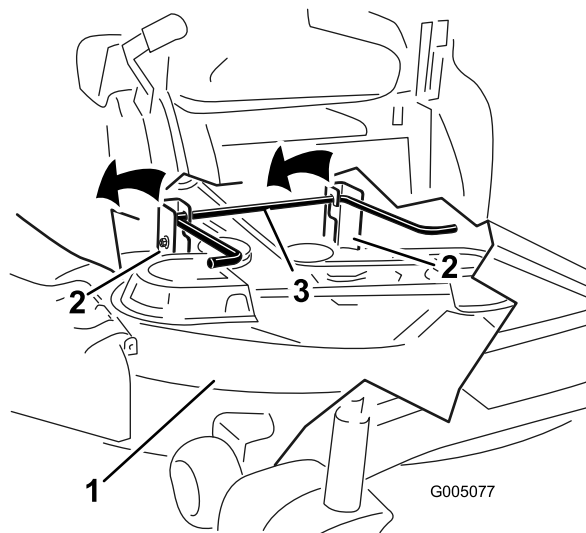

Figure 43
- Lift the mower and hanger brackets clear of the rear lift rod and lower the mower carefully to the ground (Figure 43).
5. Lift the rear of the mower deck and guide the hanger brackets over the rear lift rod (Figure 43).